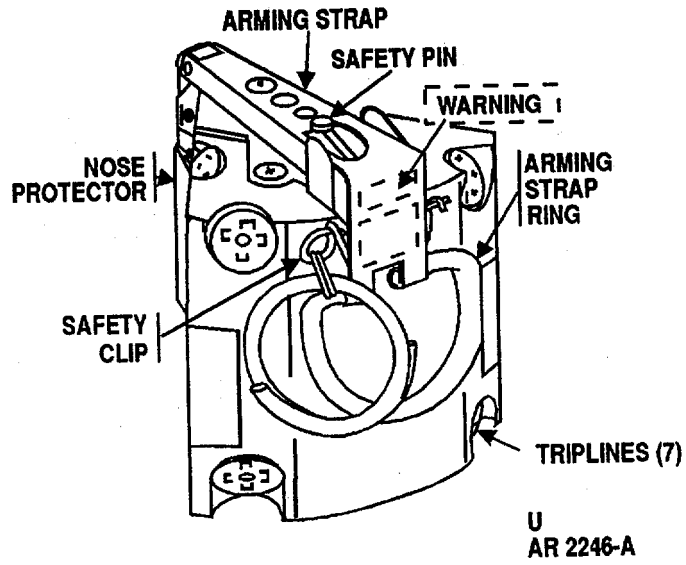
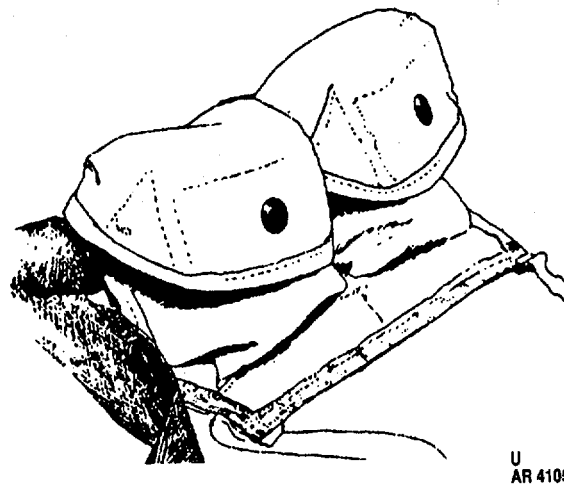

Figure 1-6. Mine, Antipersonnel, M86.
Figure 1-7. Mine, Antipersonnel: M86, packed two to a bandoleer.
(1) Mine, M86 (fig. 1-6) is wedge shaped and similar in configuration to, and possesses functioning characteristics of the Adam Mine presently loaded in the 155mm projectile, M731. It contains a safety clip, arming strap assembly, and internal safing and arming device, seven tripline sensors, a reserve battery, electronic circuitry, and a kill mechanism, all encapsulated in molded plastic form. It is packed two to a bandoleer (fig. 1-7).